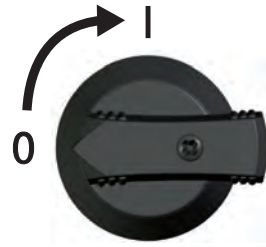

Figure 45
- ▶ Set the DC circuit breaker on the inverter to position I (Figure 45). After testing via the internal MSD (approx. 2 minutes), the power fed into the grid can be shown on the display (assuming that sunlight is present).